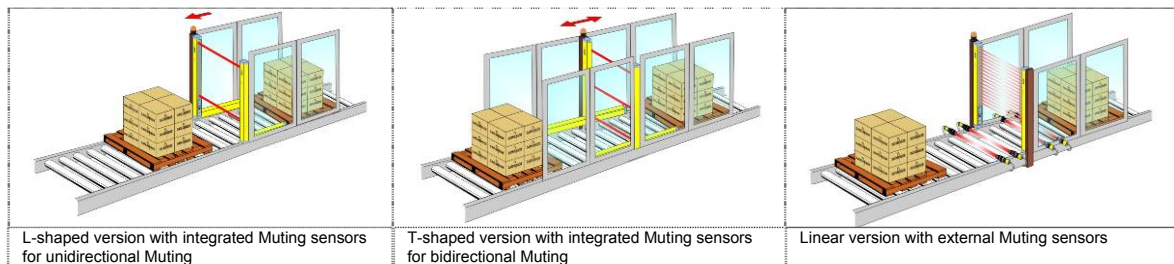

Fig. 37 – Examples of muting application
- The Muting function excludes the light curtain during functioning, maintaining active the OSSDs' outputs, according to particular operating requirements (Fig. 37).